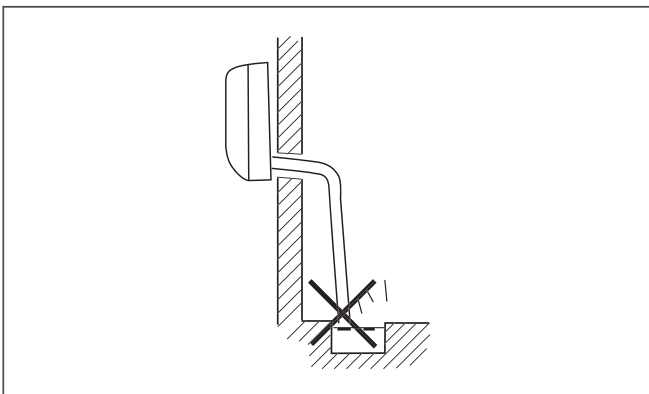

Fig. 9.5 Avoids unpleasant odours.
- Install the condensed water pipe in such a way that its free end is kept away from unpleasant odours to ensure that they do not penetrate the room (see Figure 9.5).